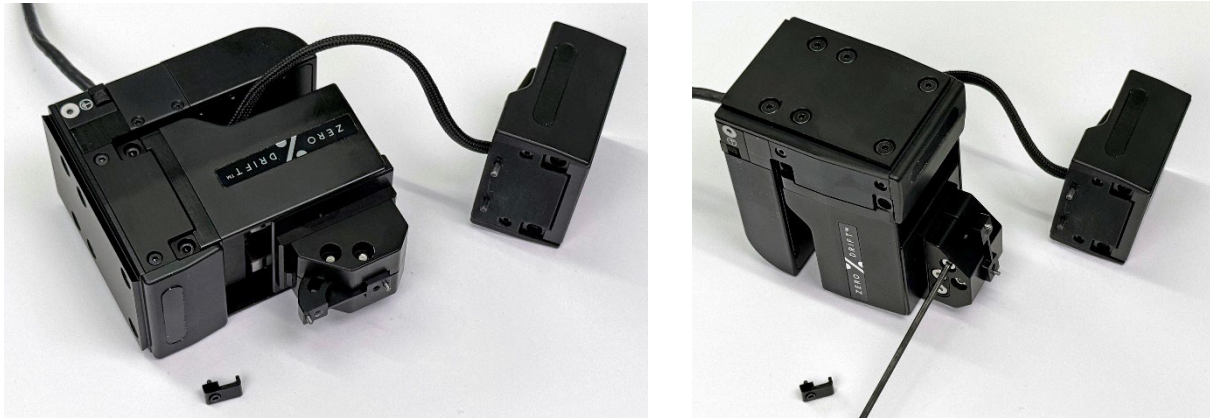

Figure 47. Remove angle adjustment locking screws
3. After x-axis is detached from the micromanipulator (Figure 47, left), unscrew 2 pcs of angle adjustment locking screws all the way out using 2 mm hex key (Figure 47, right)